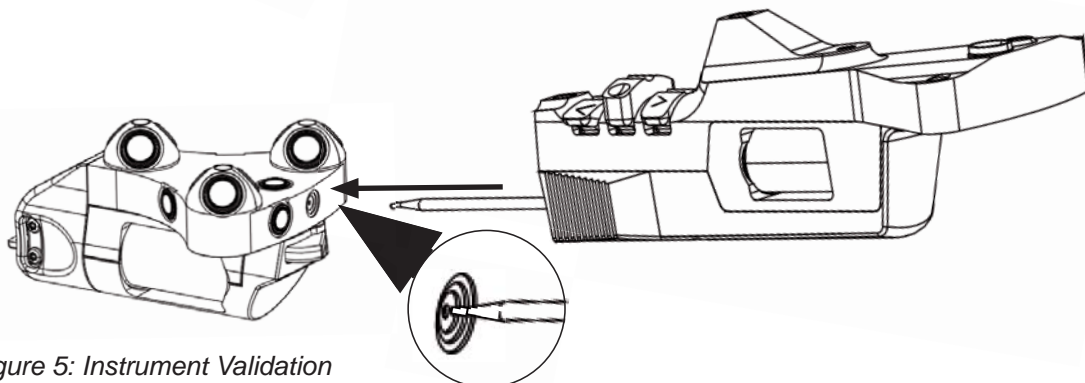

Figure 5: Instrument Validation
- Aim the LEDs of both the nGenius Universal Tracker and the navigated instrument towards the Navigation System camera and follow the instructions in *figure 5*.